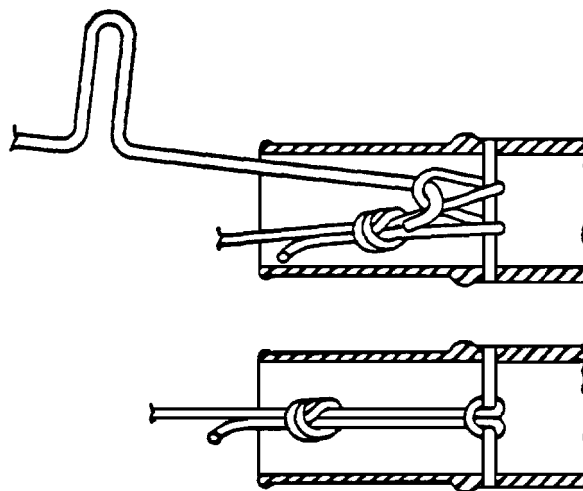

Figure 11-5. Attachment of Cord Assembly Without Snap
- (3) Form a half-hitch and attach cord (22) to disconnect fitting (7) in the same manner shown in figure 11-5.